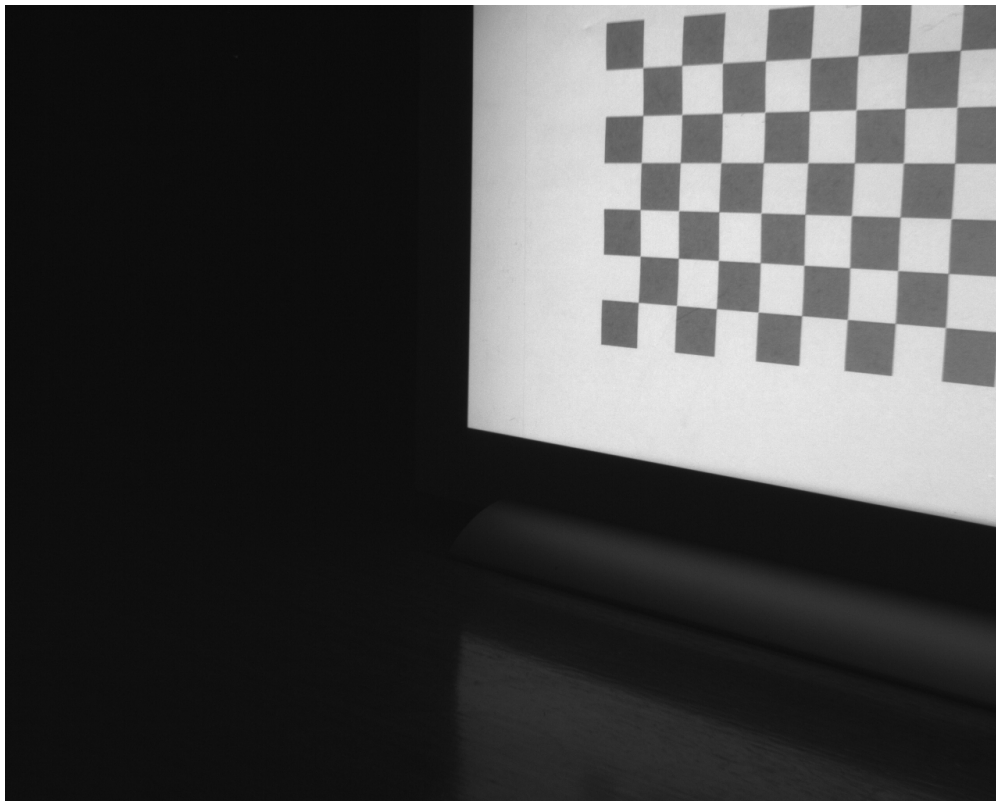

**Figure 3-13. Camera Calibration Configuration File**
9. From the live camera view window, position the camera at varying angles and distances from the projection surface. Place the grid in different areas of the camera's view and press the SPACEBAR to capture images. Default settings require twenty calibration images although this parameter can be adjusted. In `\config`, find `calibration_camera.txt`. Figure 3-13 highlights the parameter which specifies the number of calibration images. Some recommended calibration images are shown in Figure 3-14 to Figure 3-23. It is okay to move the camera at this point in the calibration procedure.